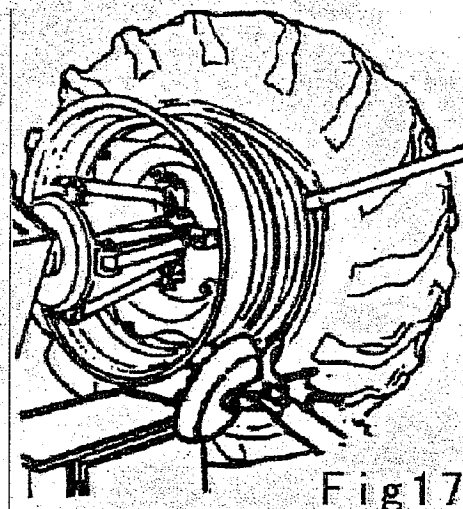

Fig 17
- (9) Remove the inner tube and lift the wheel again.
- (10) Move the tool holder to the inside plane of the tyre, turn the peak tool of 180°, and lower the arm to its working position. Insert it between rim and bead and move it until the bead is by the front edge of the rim, it is advisable to do this with turning wheel.
- (11) Move the rim about 4-5cm from the tool, so as to prevent the rim from detaching from tool.
- (12) Move the peak tool so that it is in the position about 3mm inside the rim.
- (13) Insert the lever between rim and bead at the right of the peak tool. (fig.17)
- (14) Press down the lever and keeping it pressed, lower the wheel until the edge of the rim sets